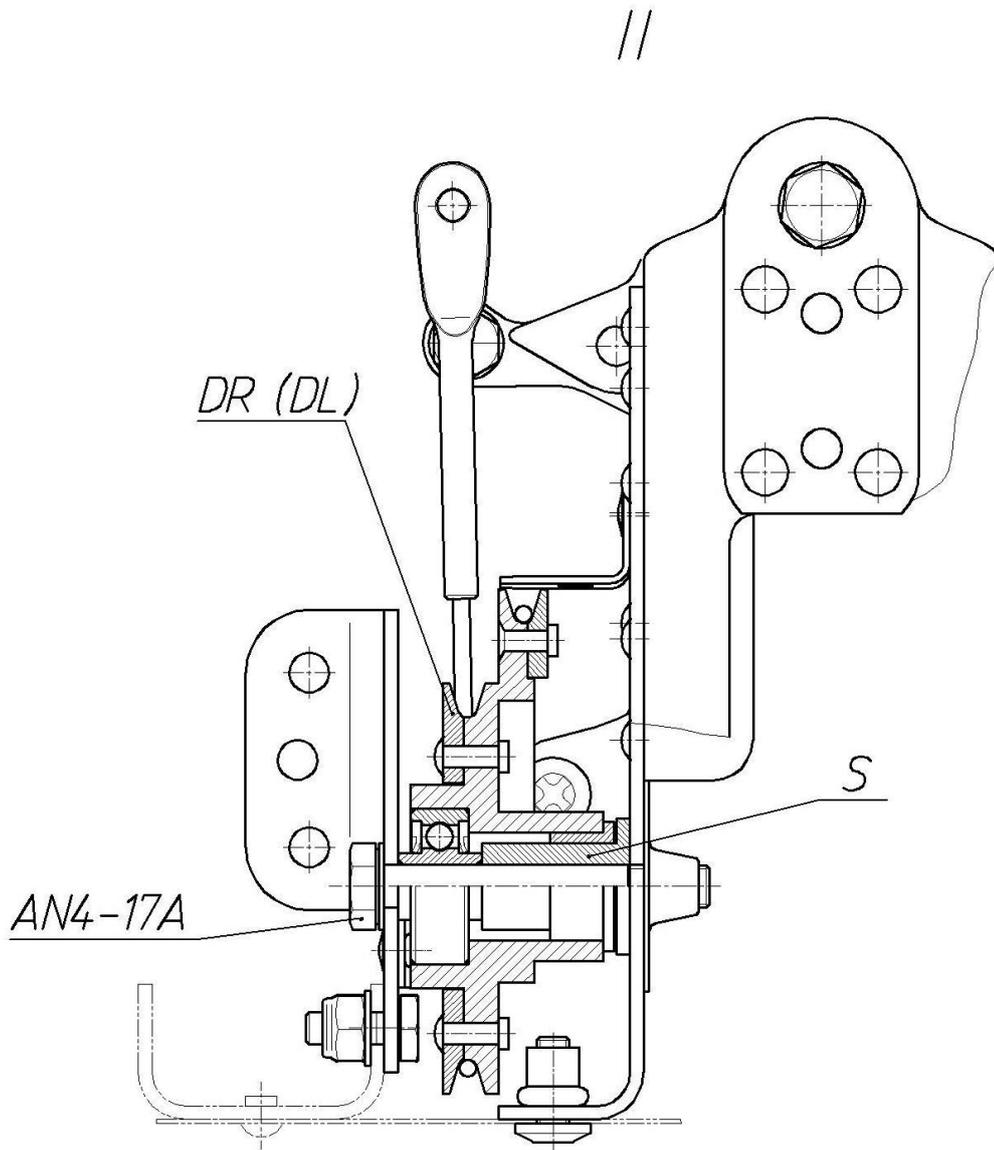

Fig. 7
3.2.3 Undo AN4-17A bolts (see fig.7) and remove the old control sectors DR (right) and DL (left) with “S” spacers.